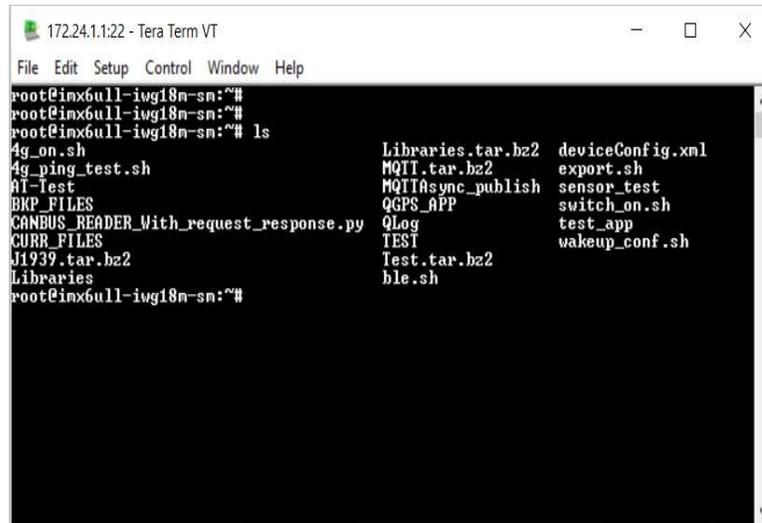

Figure 22: Device Console Window
- The device console window will be open as shown in the Figure 22,